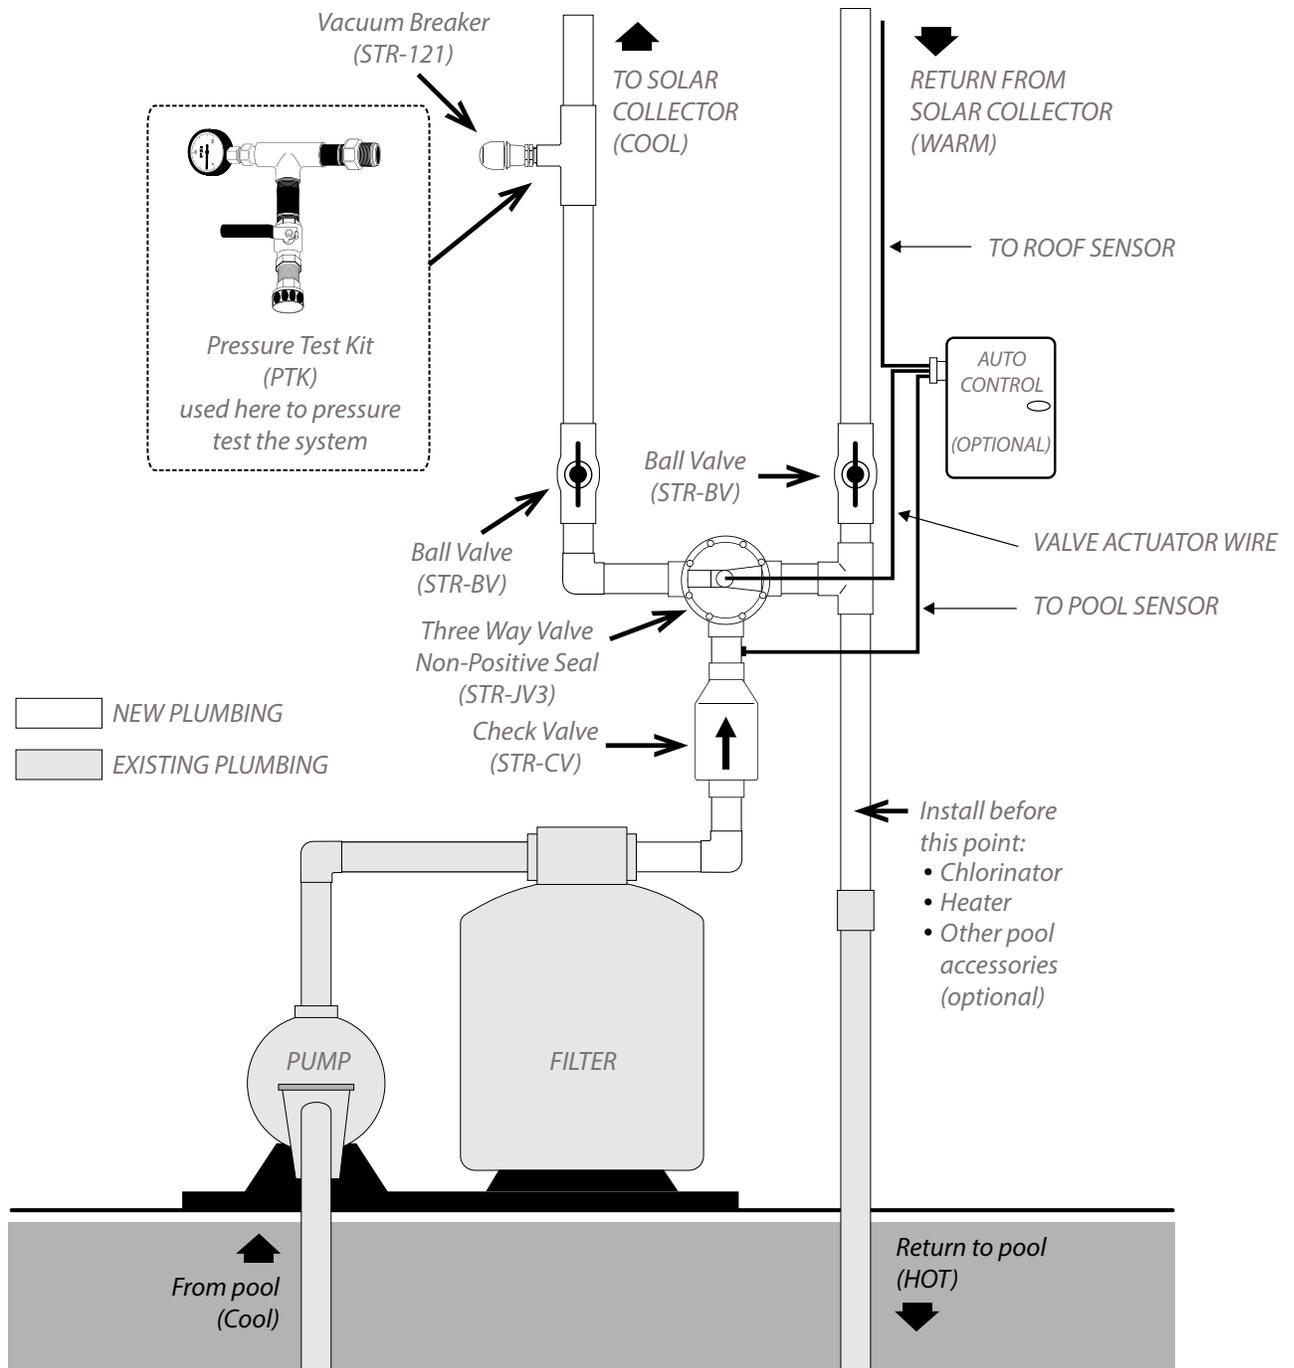

Fig. 13.1
2. Determine where the feed and return pipe will go over the edge of the roof. If possible, this should be perpendicular to the exact points where they will fasten into the existing system or into pipes coming from another location (see Fig. 13.1, page. 24).
8. Secure long pipe runs with C-clamps or G-clamps one size larger than the pipe diameter using (116) 3/8” x 4” stainless steel lag bolts and polyurethane caulk. Secure vertical pipe runs on the side of buildings with pipe-clamps the same size as the pipe diameter using screws and anchors as needed.
Fig. 13.1 on page 24 shows how a typical SunStar solar pool heating system is plumbed into existing pool plumbing. This drawing may not be just like every system you encounter; the feed and return plumbing on a solar system may be reversed, or it may be a different type of filter, or it may have additional equipment such as a chlorinator, pool cleaner, gas heater, etc. It may also have a long run of plumbing from the pool equipment to the solar collectors.
Whether the system is like this or not, Fig. 13.1 will help you understand the flow of water from the pool, through the pump, filter, solar system, and back to the pool. Study the diagram and become familiar with the valves needed to connect the solar collectors to existing plumbing.
1. Study the plumbing after the filter and decide where you are going to install the check valve and the PVC tee fitting (see Fig. 13.1). If you have auxiliary equipment, you may need to re-plumb a portion of your existing plumbing so this equipment is located after the solar system as indicated in Fig. 13.1.
2. Cut the pipe after the filter where you have decided to locate the check valve and where your solar return pipe will attach to your existing pool return line. If your pool plumbing is 1-½", and you are running 2" plumbing to your solar system, you should be using 2" valves and piping for all of your new plumbing. Therefore you will need (2) 2"x1-½" reducer bushings to adapt your new 2" fittings to the existing 1-½" pipe.
6. Install the (121) vacuum breaker about 4' up the feed line and above the top of the filter using a PVC tee and reducer bushing. Face the tee to the outside as shown in Fig. 13.1. Wrap the threads of the vacuum breaker with Teflon tape and screw it into the 3/4" threaded reducer bushing.